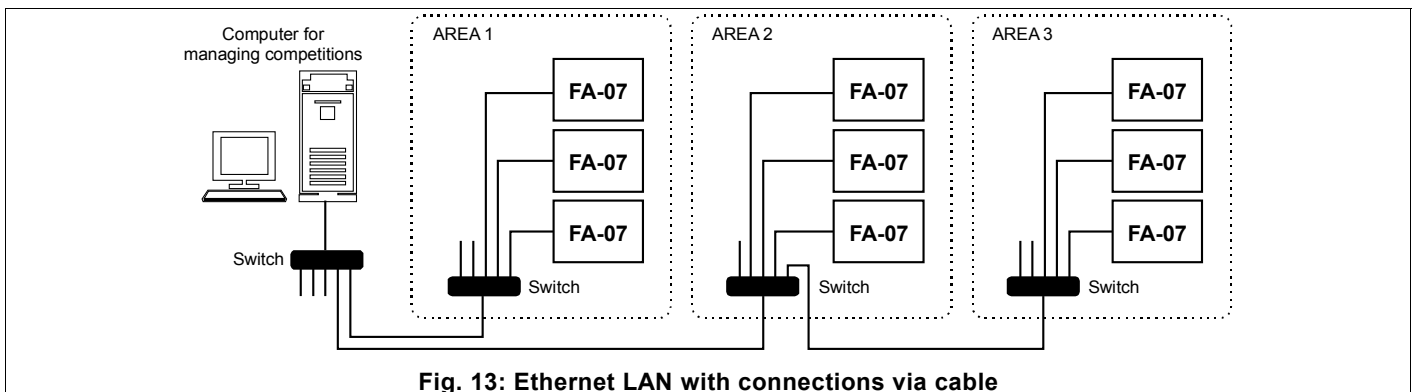

Fig. 13: Ethernet LAN with connections via cable
1. Via cable, using cat.5 or cat.6 standard network cables and standard Switch and Hub for distributing/routing the connections to the various apparatuses which may be located in different areas. See Fig. 13.